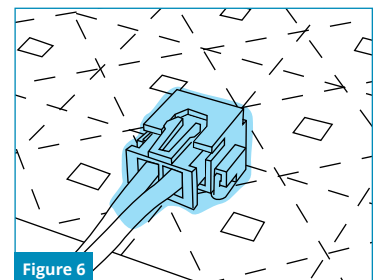

Figure 6
2. Spread excess silicone over the outside of this connection, covering the entire terminal and sheet connector end as shown (Figure 6).